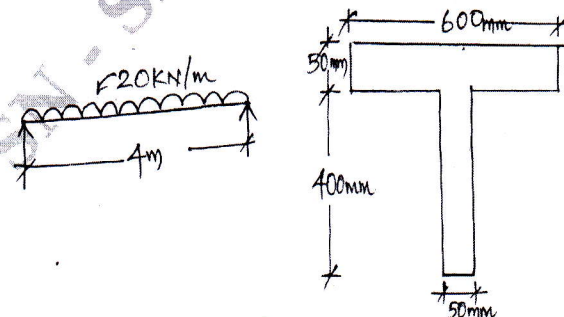

Fig Q9(b)
- b. Calculate and draw the bending stress variation for a beam section shown in Fig Q9(b).